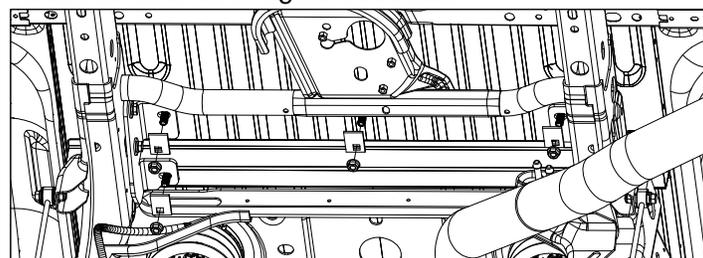
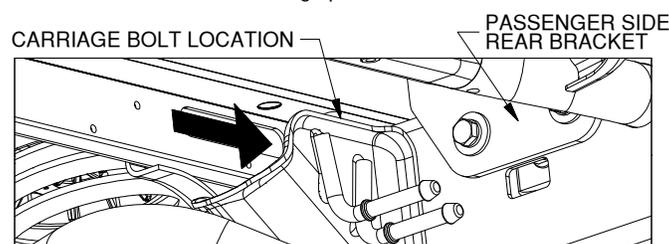

FIGURE C6: View looking up at the bottom of the truck bed.
FIGURE C7: View looking at passenger side frame and bed crossmember
8. **Fasten the rear mounting rail.** Install an offset square hole washer and 1/2" flange nut on each of the carriage bolts passing down through the bed as shown in Figure C6. Do not tighten at this time. The passenger side 1/2" x 4 1/2" carriage bolt can be accessed from a space in the frame geometry next to the bolt, see Figure C7. Use the space to thread the offset square hole washer and 1/2" flange nut. Use a box end wrench to tighten this nut.